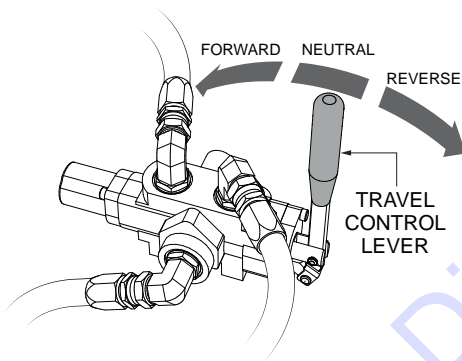

Figure 13. Travel Control Lever
2. Place the travel control lever (Figure 13) in the **NEUTRAL** position.